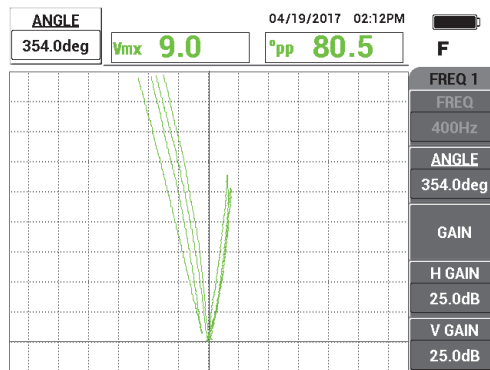

Figure 5-214 Adjusting the signal phase
3. Press the ANGLE key () , and then rotate the signal until the OD grooves are split by the vertical cross-hair (see Figure 5-214 on page 280).